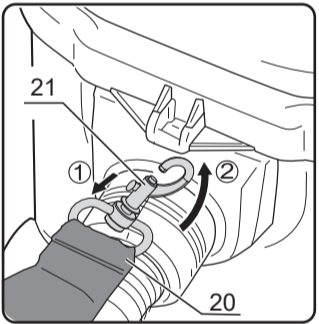

fig.9
- Attach the hooks of the shoulder strap onto the mounts of the top cover. (fig.9)